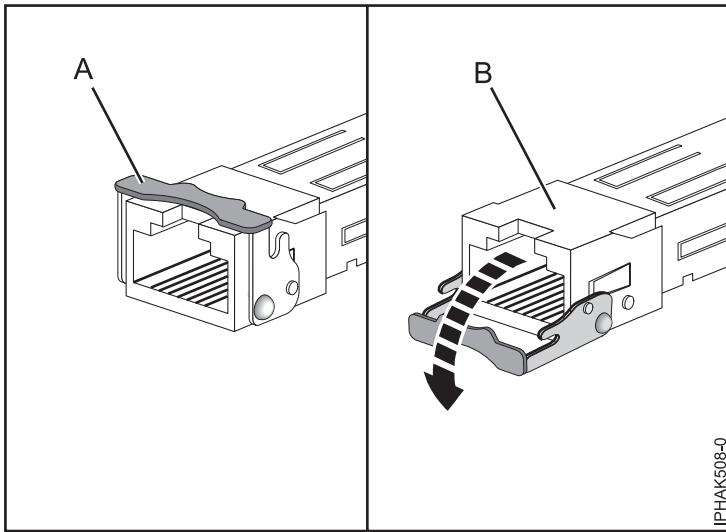

Figure 32. Removing SFP transceivers from adapters
Note: Some Ethernet or Fiber Channel adapter FRUs require the removal of the small form-factor pluggable (SFP) transceivers (if present) in order to remove the tailstock. With the card lying flat on a static-protective surface, open the latch (A) by rotating it down and away from the card as shown in Figure 32 on page 41. Slide the transceiver (B) out of the adapter hardware. Repeat for the other transceiver.